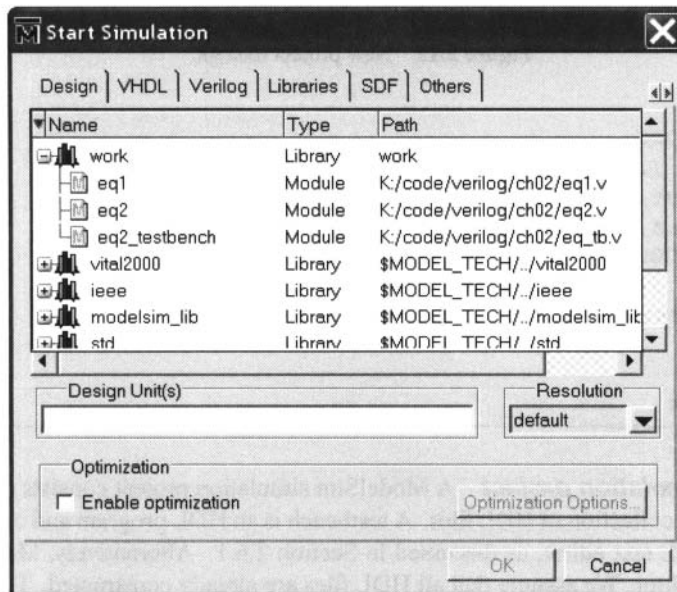

Figure 2.14 Simulate dialog.
2. In the Design tab, find and expand the work library, which is the one defined when we create the project. All compiled units are displayed, as shown in Figure 2.14.